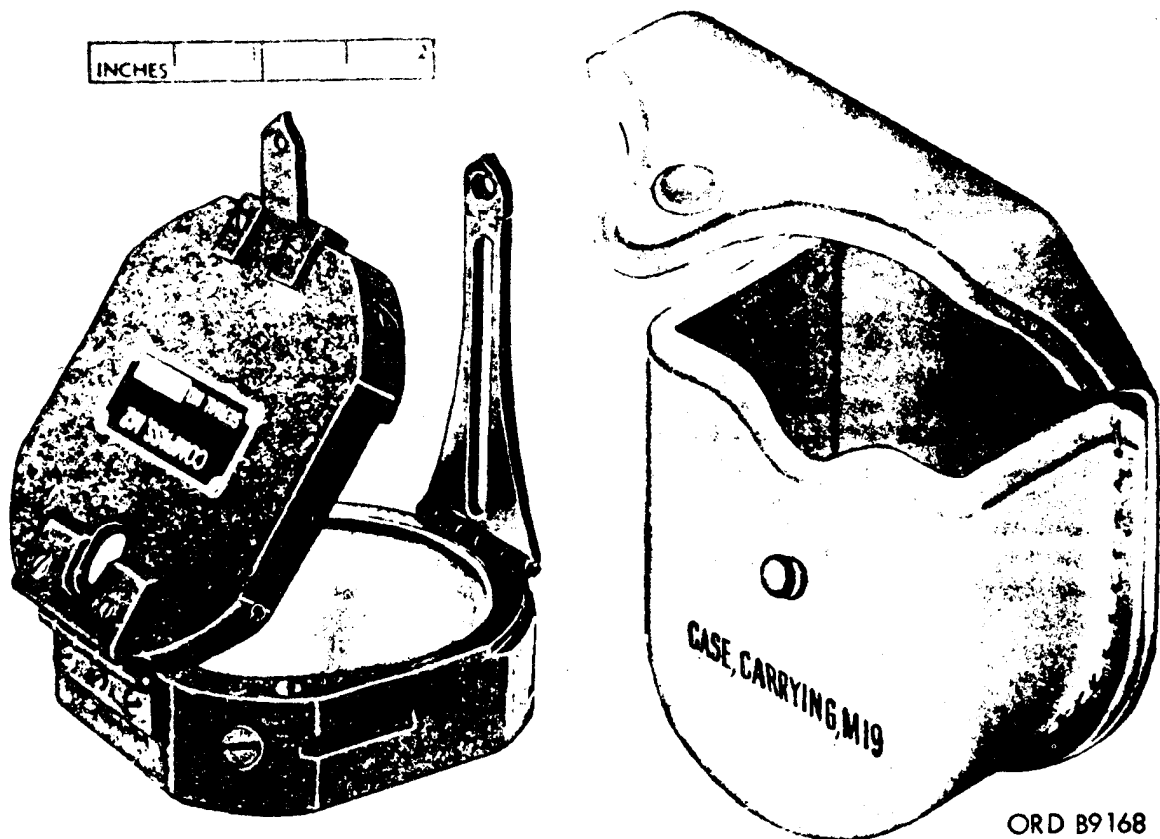

Figure 1. Compass M2 and carrying case M19.
a. *General.* Unmounted magnetic compass M2 (figs. 1 and 2) is a multiple purpose instrument applicable to obtaining clinometer, angle of site, and azimuth readings. The body of the compass is dustproof and moisture proof, and is made of nonmagnetic material except for the magnetic needle and its pivot. When the cover is closed, the magnetic needle is automatically lifted from its pivot to protect the pivot point and jewel bearing. The jewel bearing is agate. The compass is provided with an angle of site scale and an azimuth scale. The azimuth scale may be rotated approximately 1,800 mils. The compass is equipped with circular and tubular levels. In place of a telescope, the compass employs front and rear leaf